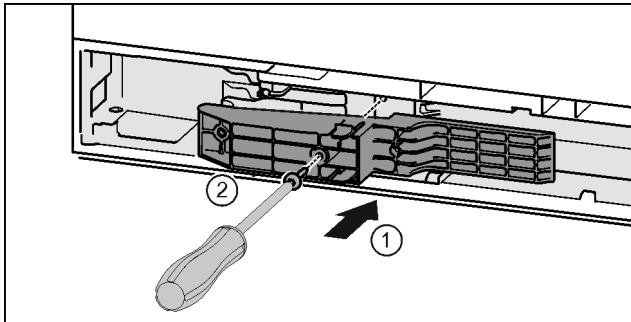

Fig. 43 \*
- ▶ Insert the adapter on the handle side in the recess. Fig. 43 (1)\*
- ▶ Tighten the screws using the T15 screwdriver. Fig. 43 (2)\*